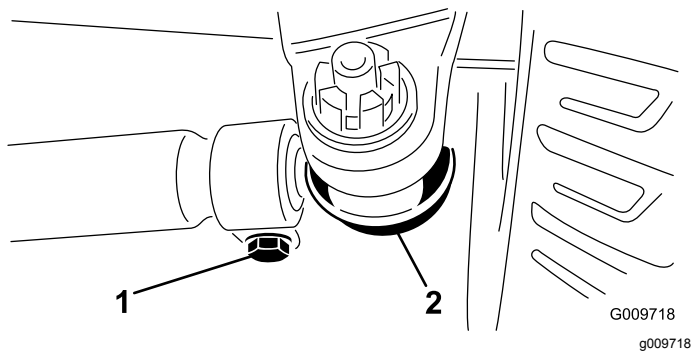

Figure 101
3. To adjust the toe-in, remove the cotter pin and the nut from either tie-rod ball joint (Figure 101).
5. Loosen the clamps at both ends of the tie rods (Figure 101).